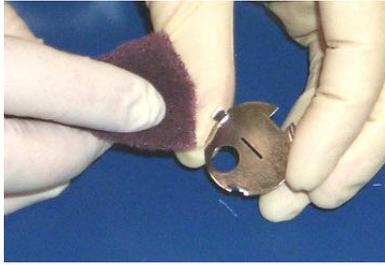

Figure 3-13 Cleaning the Ground Slit Plate
3. Use a Scotch-Brite™ pad to polish away any discolored areas of the ground slit plate (Figure 3-13).